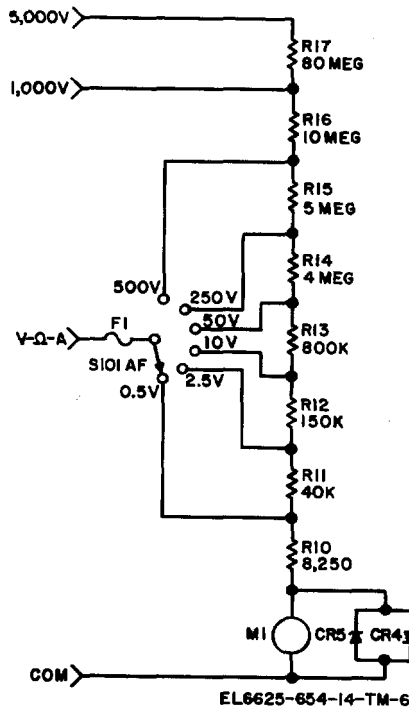

Figure 4-2. Simplified 20K Ω /V Vdc circuit.
a. 20 K Ω /V Circuit. Figure 4-2 illustrates a simplified schematic diagram of the 20K Ω /V voltmeter circuit. This circuit provides a high impedance measurement source to minimize